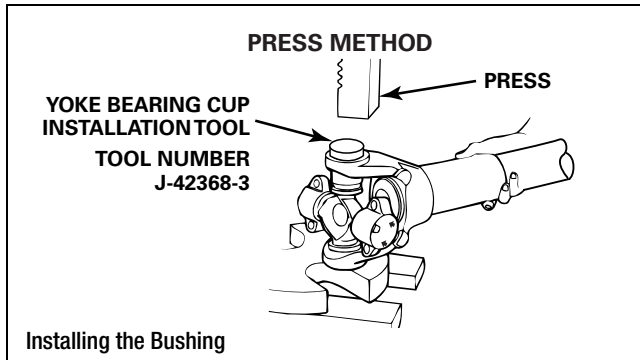

Figure 4.36
5. Use a press, yoke bearing cup installation tool (SPX Kent-Moore tool number J-44516) or universal joint press (Tiger Tool number 10707) to install the first round bushing slightly past the snap ring groove. When the bearing cup installation tool contacts the yoke, it is installed correctly. Figure 4.34, Figure 4.35 and Figure 4.36.
8. Use a press, yoke bearing cup installation tool (SPX Kent-Moore tool number J-44516) or universal joint press (Tiger Tool number 10707) to install the second round bushing slightly past the snap ring groove. Check that the bushing is aligned with the universal joint. Figure 4.34, Figure 4.35 and Figure 4.36.